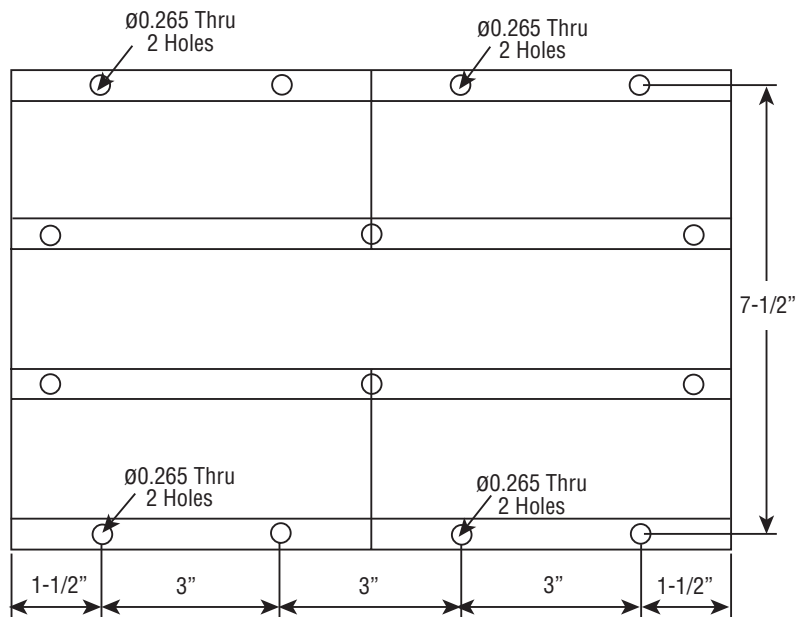

Figure 1
3. Refer to Figure 1 for mounting hole layout for each assembly configuration.